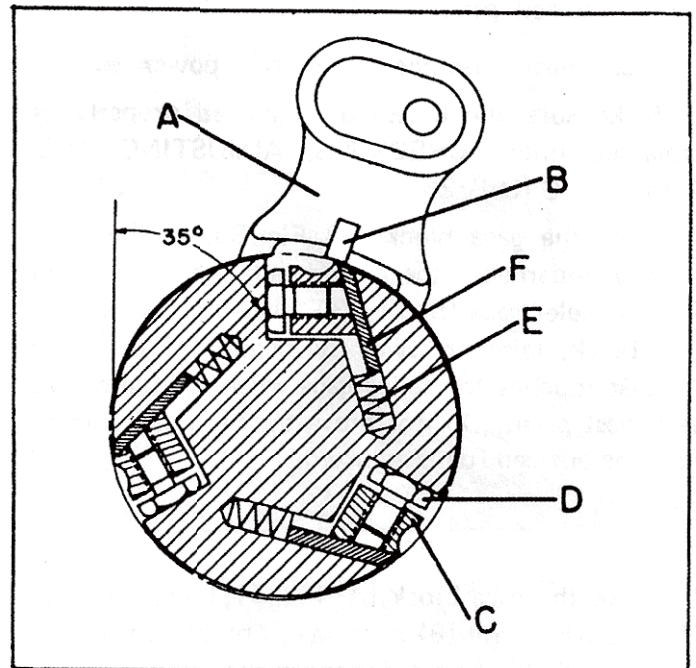

Fig. 27
- A. To CHECK AND ADJUST KNIVES use knife gage (A) Fig. 27, and check all three knives for proper setting as shown. When the gage (A) is placed properly on the cutterhead as shown, the knife should just contact the bottom of the center protrusion (B) Fig. 27, of the gage.
- B. If an adjustment to one or more of the knives is necessary, slightly loosen the knife locking bars (C) Fig. 27, of all three knives by turning the fifteen knife locking screws (D) into the knife locking bars just enough to relieve stress in the cutterhead and not disturb the setting of the knives.
C. Then, using the knife gage, adjust the knife that must be reset by loosening all five locking screws (D) Fig. 27, by turning them into the knife locking bar. As the knife locking bar becomes loose, lifter springs (E) located under the knife will raise the knife until it comes into contact with the center portion (B) of the gage (A) Fig. 27. Then snug up the knife locking bar by lightly backing out the five screws (D) against the slot. **IMPORTANT: AT THIS TIME, ONLY TIGHTEN THE KNIFE INTO THE SLOT JUST ENOUGH TO HOLD KNIFE INTO POSITION.**
A. To remove knives, loosen the knife locking bar (C) Fig. 27, by turning the five knife locking screws (D) into the knife locking bar (C) and remove the knife locking bar (C), knife (F) and springs (E) located under the knives.
D. Inspect the cutting edge of the knives for nicks or wire edge. Hone the knives slightly using a stone or if the knives are to be sharpened, maintain a cutting angle of 35 degrees as shown in Fig. 27.
E. Insert springs (E), knives (F) and knife locking bars (C), into all three slots in the cutterhead, as shown in Fig. 27. Back out locking screws (D) just enough to hold all three knives in the cutterhead.
F. Place the knife gage (A) over one of the knives, as shown in Fig. 27.
G. While holding down on the knife gage (A) Fig. 27, loosen all five locking screws (D) by turning them into bar (C) until cutting edge of knife (F) comes into contact with the protrusion (B) of gage (A). Then snug up the knife locking bar (C) by slightly backing out the five screws (D) against the slot. **IMPORTANT: AT THIS TIME, ONLY TIGHTEN THE KNIFE INTO THE SLOT JUST ENOUGH TO HOLD THE KNIFE IN POSITION.**
J. After all three knives are set with the screws just snug, back out and tighten the five screws (D) Fig. 27; against the slot starting with the end screws first and then the center screws until the knife is securely held in the cutterhead. Tighten the remaining two knives in the same manner.